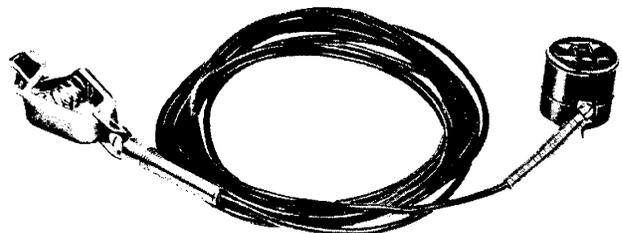

Fig. 7 — C Grounding Cord
- The C grounding cord is similar to the B except that it has a clip on one end and a standard-to-parallel adapter on the other (see Fig. 7).